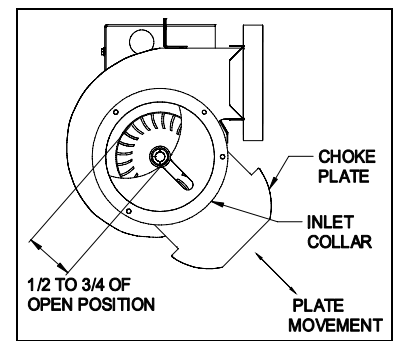

Figure 9
1. To properly adjust the venter air flow, loosen the inlet ring screws and open the choke plate approximately 1/2 to 3/4 open. (See Figure 9) Start the heating appliance following the manufacturer specified procedure, and set the thermostat to call for heat.
4. Secure the choke plate into position by tightening the screws on the inlet collar (See Figure 9)